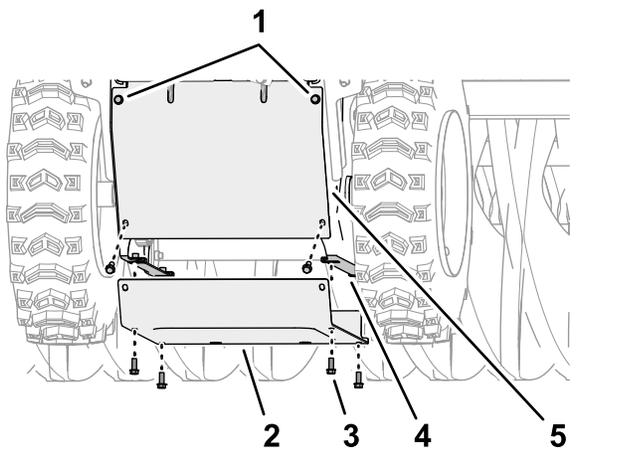

Figure 47
5. At the back of the machine, loosen the 2 top flange-head capscrew (1/4 x 5/8 inch) that secure the rear cover to the machine (Figure 47).
- Remove the 6 flange-head capscrew (1/4 x 5/8 inch) that secure the bottom cover to the machine, and remove the cover (Figure 47).